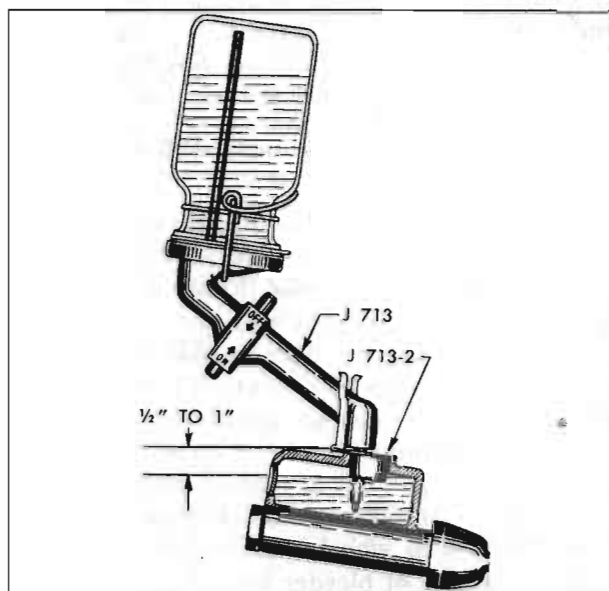

Figure 8-5—Master Cylinder Filler and Adapter
2. Fill reservoir as required to bring fluid level to  $\frac{1}{2}$ " to 1" below top of filler opening. Master Cylinder Filler J 713 with Adapter J 713-2 will automatically fill reservoir to correct level. See figure 8-5.
2. Fill Master Cylinder Filler J 713 with specified brake fluid (par. 8-8) and use Adapter J 713-2 to support the filler in place on master cylinder. See figure 8-5. Leave Filler J 713 in place during all bleeding operations as it automatically maintains the proper level in reservoir as fluid is pumped out of master cylinder.